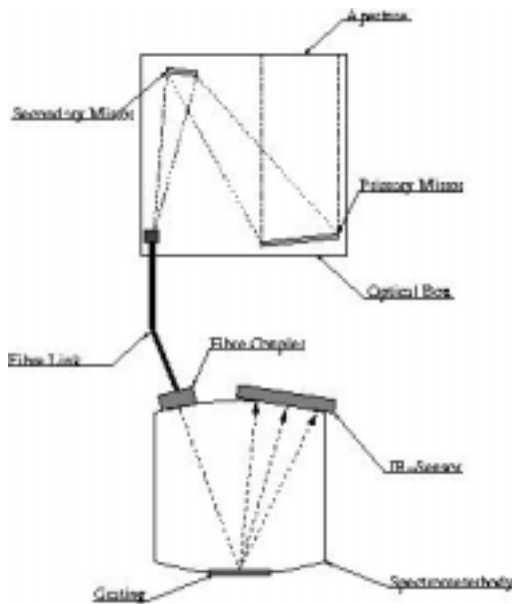
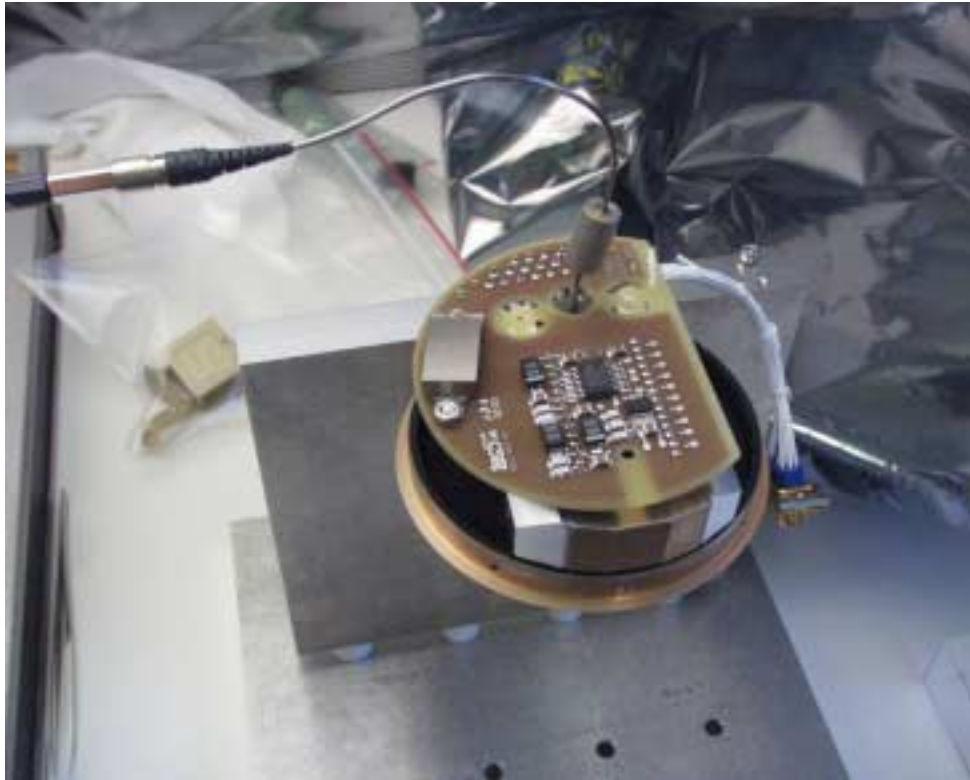

Figure 2: Functional principle of SIR.
Figure 4: Image of the sensor-head internal (QM).
- ***Instrument Unit:*** Consists of the sensor-head (spectrometer) and the optics box (O-Box) with its isostatic mount and radiator. The Instrument Unit contains all optical components of SIR and delivers analogue data for conversion to digital values in the E-Box. The main components of the O-Box (see figure 2, 3 and 5) are the off axis mirror system, the alignment mirror, the fiber flange, the feet, the radiator, the radiator feet, the cooling band and two supports for stabilizing the sensor-head. The sensor-head consists of a quartz housing, cap, optical fiber, optical edge filter, slit, quartz body, grating, sensor slit, sensor, cooling and shielding console, damping elements, heater, S/C heaters, several thermistors and the PCB with electronic components. Figure 4 gives an impression of the sensor-head internal.